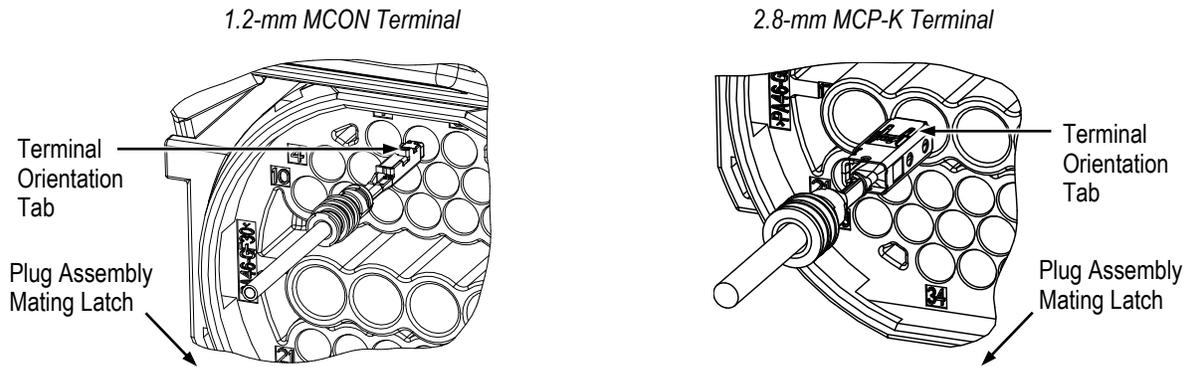

Figure 2
3. Align a crimped terminal with the appropriate circuit cavity of the plug assembly so that the orientation tab is facing away from the plug assembly mating latch. See Figure 2.